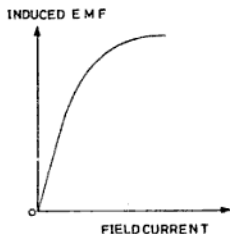
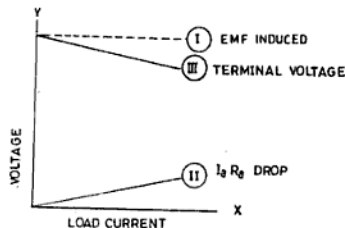

Fig. 7.10 OCC curve of generator
Fig. 7.11 ICC-cum-ECC curve of separately excited generator
The characteristic curves of separately excited generators are shown in Figs. 7.10 and 7.11. The curve in Fig. 7.10 is the OCC curve and gives the relation between the current through the field windings and the emf induced in the armature. The curve starts from zero (0), increases rapidly and then becomes approximately parallel to the x -axis. The reason for its becoming parallel to the x -axis is the magnetic saturation of the field poles. The curves in Fig. 7.11 gives the relation between load current induced emf, drop in the armature and terminal voltage. These curves are similar to the magneto.